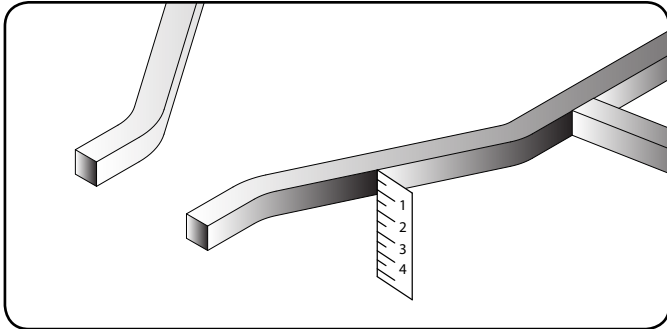

Figure 19 - Frame Measurement
2. Measure the thickness of your tube frame and skid plate (if installed) see Figure 19. Then cut the provided rubber spacers to a  $\frac{1}{4}$  in. (6.4 mm) longer than the thickness of the tube frame.